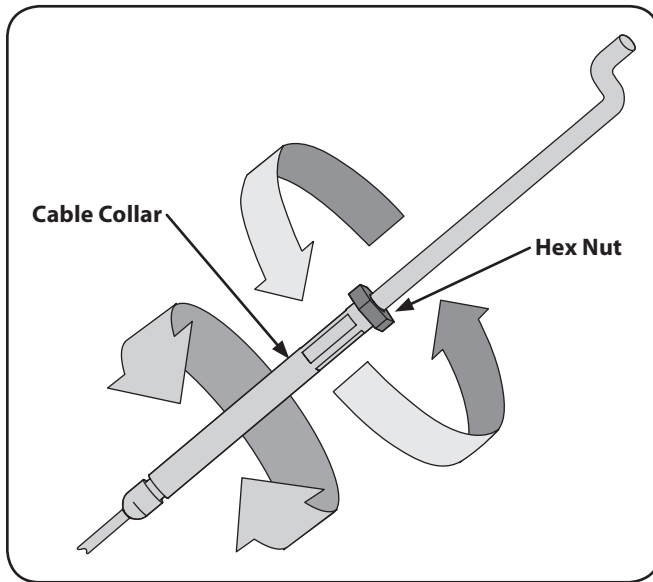

Figure 1-8
2. Adjust the forward clutch cable by loosening the hex nut. See Figure 1-8.
3. Turn the cable collar section one or two turns to increase or decrease tension on the cable. See Figure 1-8.
4. Retighten the lock nut against the cable collar. See Figure 1-8.